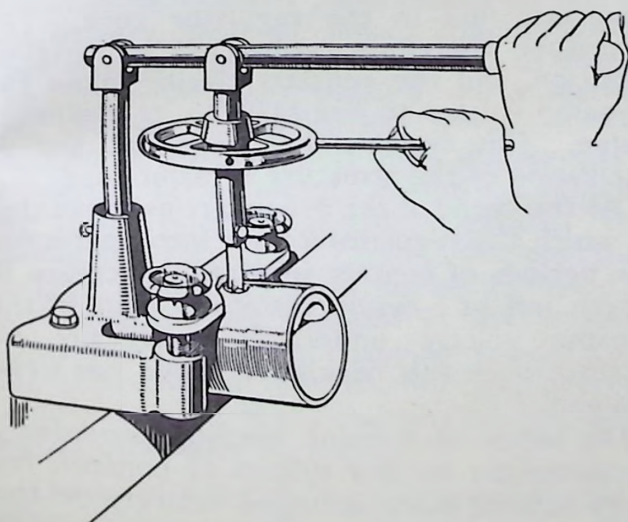

Fig. 22. Tightening Pole Shoe Retaining Screw.
- (7) Locate the pole shoes and field coils by lightly tightening the fixing screws.
- (8) Fully tighten the screws by means of the wheel-operated screwdriver and lock them by caulking. See Fig. 22.
- (9) Replace the insulation piece between the field coil connections and the yoke.
- (10) Re-solder the field coil connections to the field coil terminal tags and re-rivet the block assembly to the yoke.